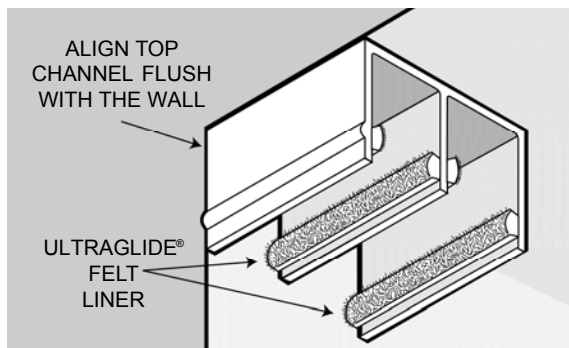

Figure 1
- C. When cut to proper length, install Top Channel (#2) up to the top front of closet opening making sure that the front of the Mirror Fascia on the Top Channel (#2) is flush with outside walls (See Figure 1). Hold up the Top Channel (#2) in the desired position and with your Pencil, mark where the pre-drilled holes are in the Top Channel (#2).